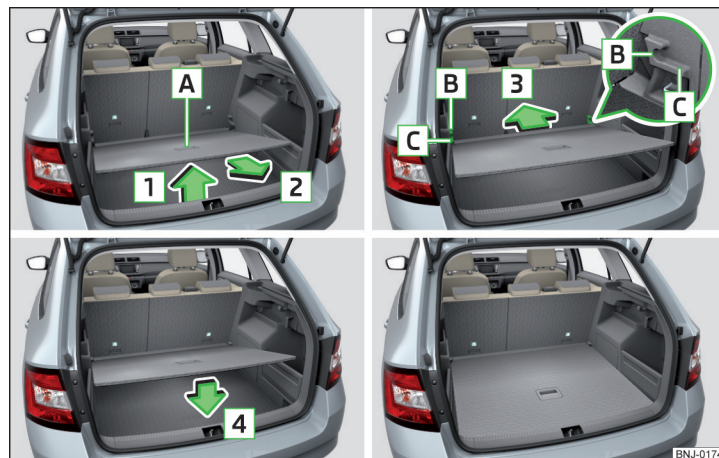

Fig. 106 Set the variable loading floor to the upper position
- Grasp the variable loading floor at handle **A** » Fig. 106.